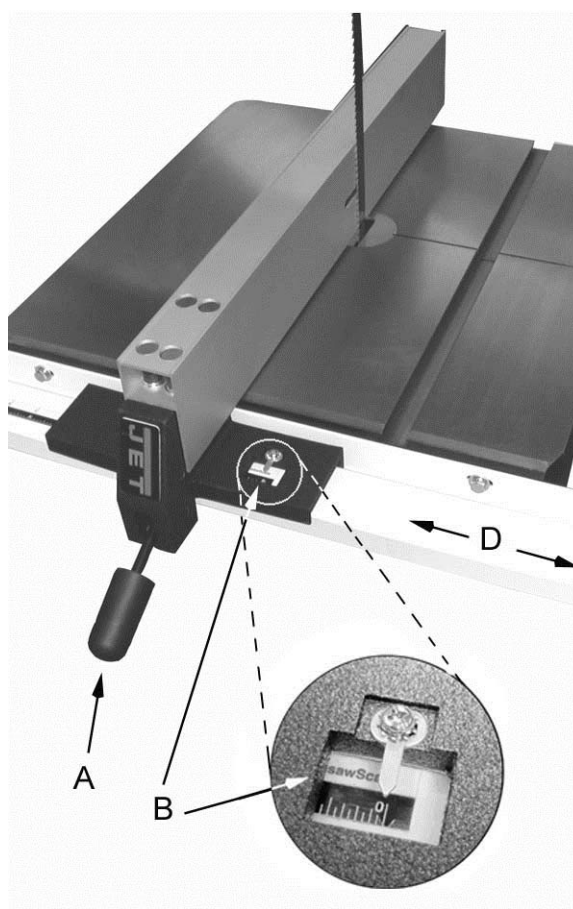

Figure 12
8. Move the fence assembly to the other side of the blade as shown in Figure 12 so that the *pointer* (B, Figure 12) on the fence body points to *zero* on the scale. Lock the fence by pushing down the *handle* (A, Figure 12).
9. Move the guide rail (D, Figure 12) *with the locked fence* until the fence is flush against the blade (C, Figure 12). Do not unlock the fence to perform this. Move the fence and guide rail together when establishing the zero point.